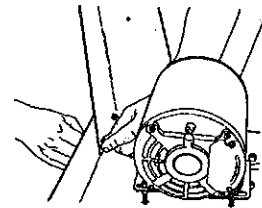

Fig.A-5
8. Repeat Step 7 for the other leg on the headstock end, remembering to leave the end inside hole alone for now. See Fig.A-5.